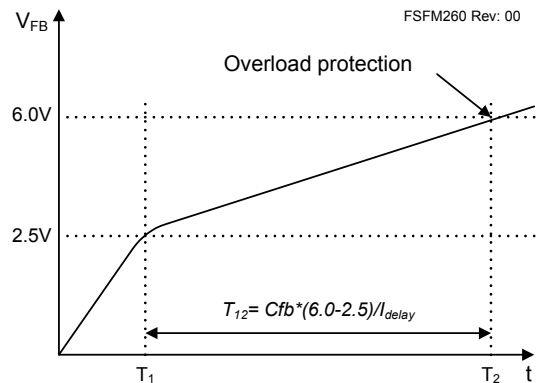

Figure 20. Overload Protection
3.1 Overload Protection (OLP): Overload is defined as the load current exceeding a pre-set level due to an unexpected event. In this situation, the protection circuit should be activated to protect the SMPS. However, even when the SMPS is in the normal operation, the overload protection circuit can be activated during the load transition. To avoid the undesired operation, the overload protection circuit is designed to be activated after a specific time to determine whether it is a transient situation or an overload situation. Because of the presence of sense current limit capability, the maximum peak current through the SenseFET is limited and, therefore, the maximum input power is restricted with a given input voltage. If the output consumes beyond this maximum power, the output voltage (V_O) decreases below the set voltage. This reduces the current through the opto-coupler LED, which also reduces the opto-coupler transistor current, increasing the feedback voltage (V_{FB}). If V_{FB} exceeds 2.5V, D1 is blocked and the 5 μA current source starts to charge C_B slowly up to V_{CC} . In this condition, V_{FB} continues increasing until it reaches 6V, when the switching operation is terminated, as shown in Figure 20. The delay time for shutdown is the time required to charge C_B from 2.5V to 6.0V with 5 μA . In general, a 10 ~ 50ms delay time is typical for most applications.